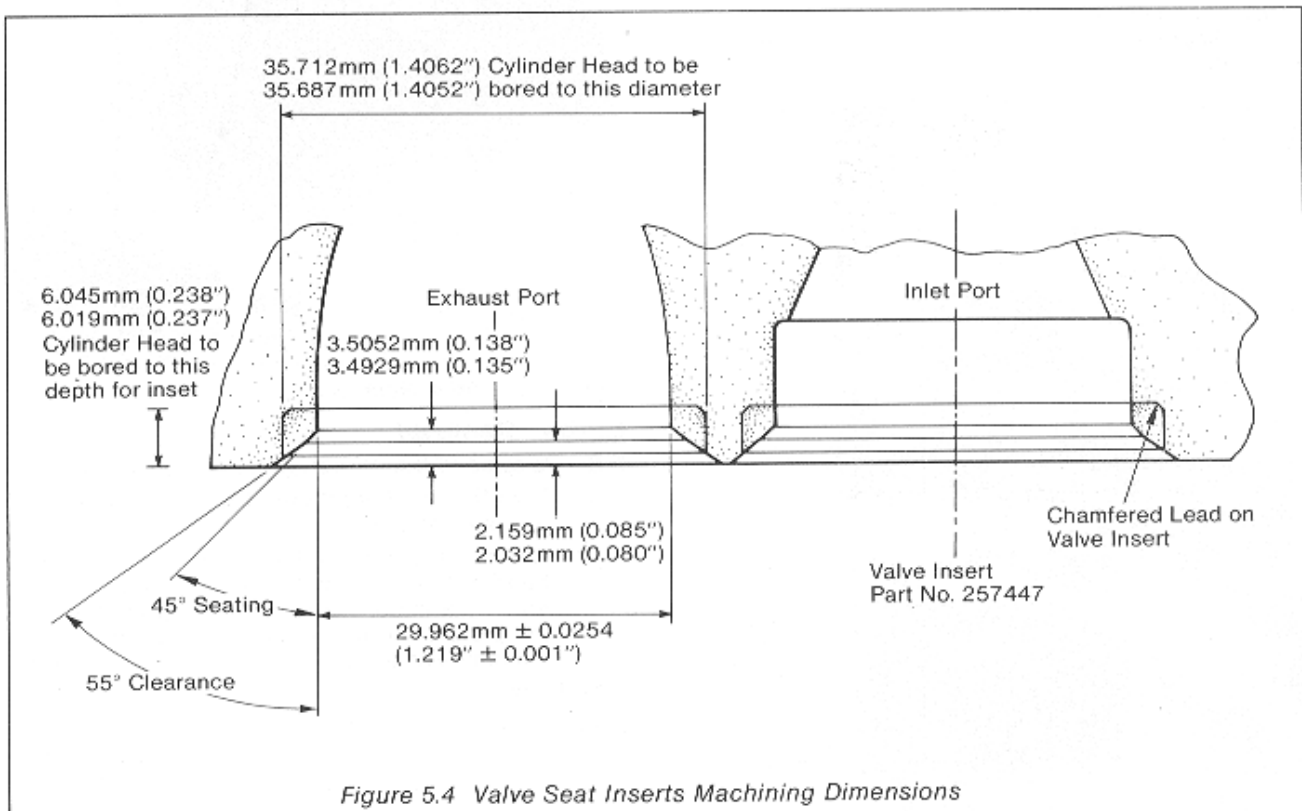

Figure 5.4 Valve Seat Inserts Machining Dimensions
- (1) Strip the cylinder head and bore each valve port to the dimension shown in Figure 5.4. It is essential not to machine the head beyond the dimension shown, particularly in the case of the inlet port. This is specially shaped to create turbulence of the air entering the engine.
- (2) Press the valve seat inserts into the cylinder head (chamfered end first).
- (3) Machine the valve seats to the dimensions shown in Figure 5.4.